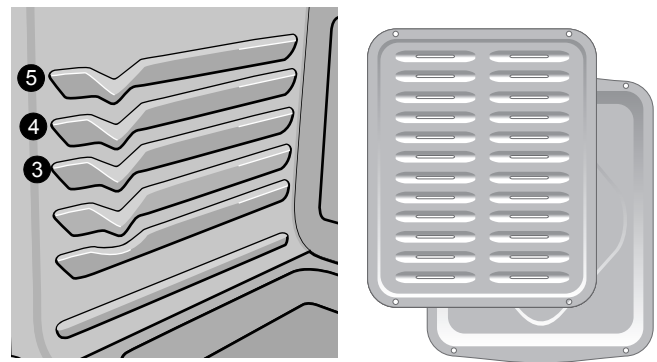

Figure 21: Rack positions (L) and optional broiler pan and insert
2. Position bakeware in oven to the preferred rack position. (Figure 21).